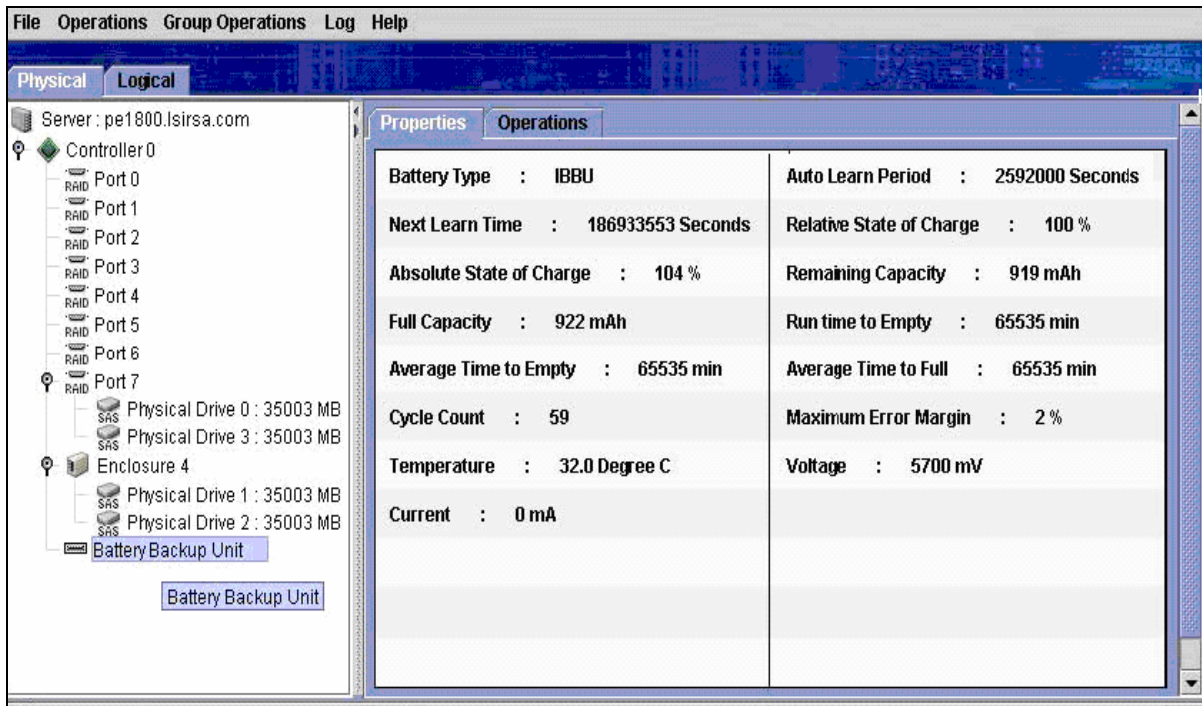

Figure 6. BBU information in RWC2
- Figure 6. BBU information in RWC2 8